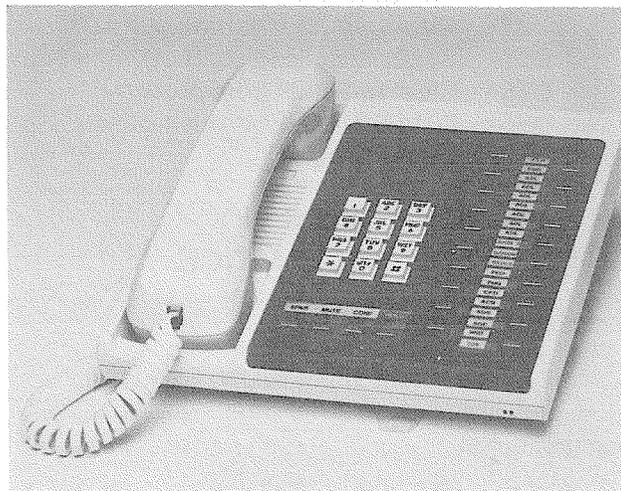

FIGURE 30—20-key EKT
09.02 The 20-key EKT (Figure 30) has the same overall dimensions as the standard EKT, and is installed in exactly the same manner. It provides an additional 10 flexible assignment keys in the vertical row.